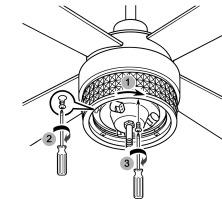

FIG.17
6. Place the light kit plate into the light kit match with loosen screws. Rotate the light kit plate in a counter clockwise(to the right direction) untl it is held. And tighten the screws. (see Fig.17)